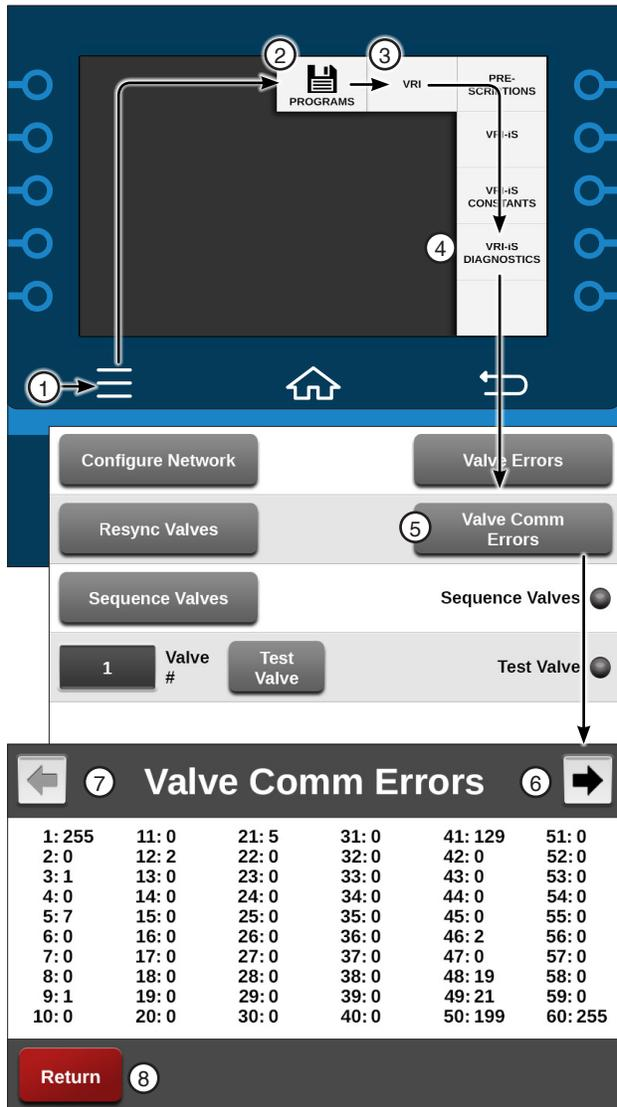

Figure 184-1 1. Menu 5. Valve Comm Errors
1. Push **Menu**, **Programs**, **VRI** and **VRI-iS Diagnostics** to display the VRI-iS Diagnostics screen. Refer to Figure 184-1.